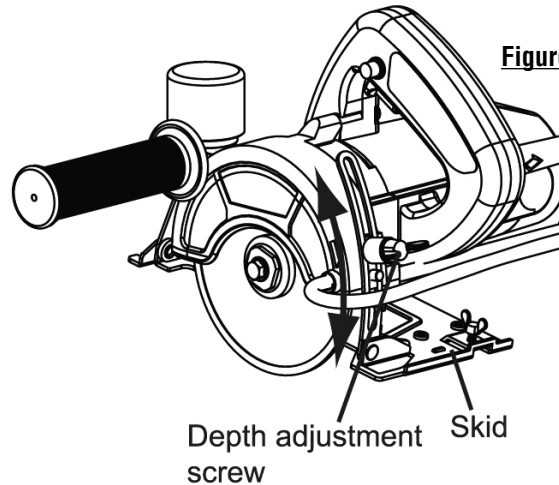

Figure 6
1. Loosen depth adjustment screw (see fig. 6).